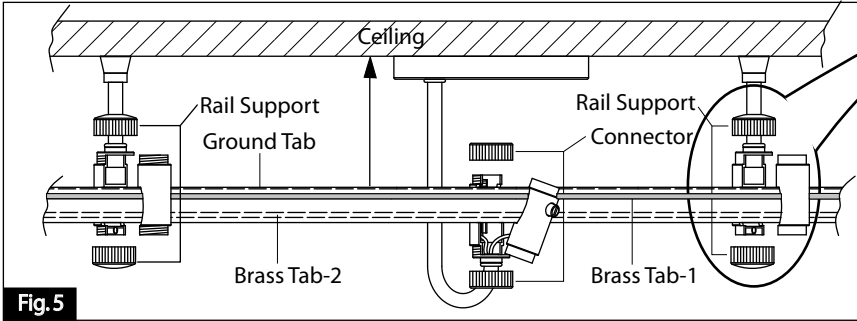
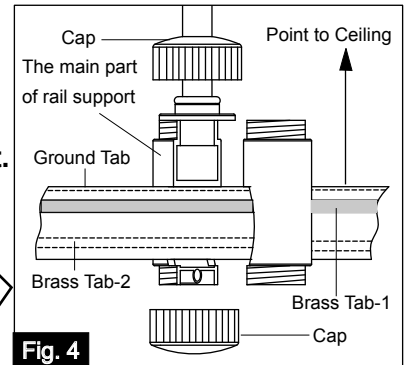

Fig. 5
Fig. 4
b: The brass tab-1 on the flexible track must face you as shown in Fig 4 and Fig 5).
6. Attach the flexible track onto the slot of the other rail support placed in the other side of the canopy on the ceiling. Connect both halves of the rail support together back. Then screw the caps on tightly. (See Fig 4 & Fig 5)